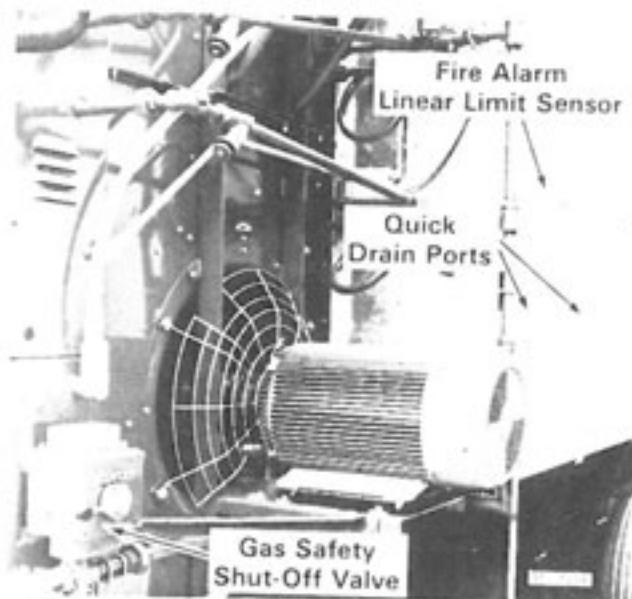

Figure 24 - Optional Safety Control Fire Alarm w/ Safety Shut-Off Valve
The linear limit sensors on the outside of the dryer screens monitor the exhaust air temperature, see Figure 24. The temperature operating range of the sensors is pre-set and is not adjustable.
The safety shut-off valve shuts off the main gas supply to the dryer, see Figure 24.
3. Reset the safety shut-off valve manually. The reset lever is on the side of the valve, see Figure 24.